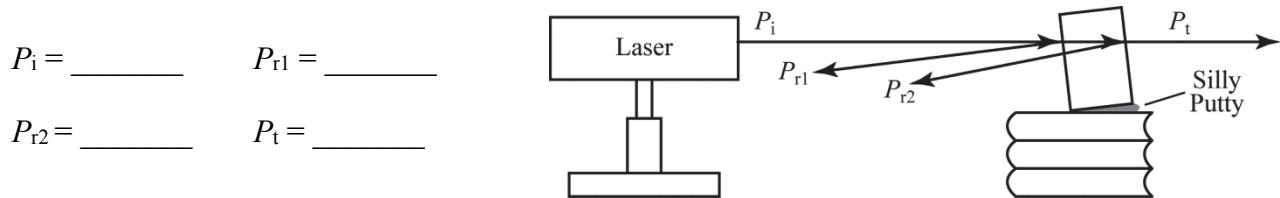
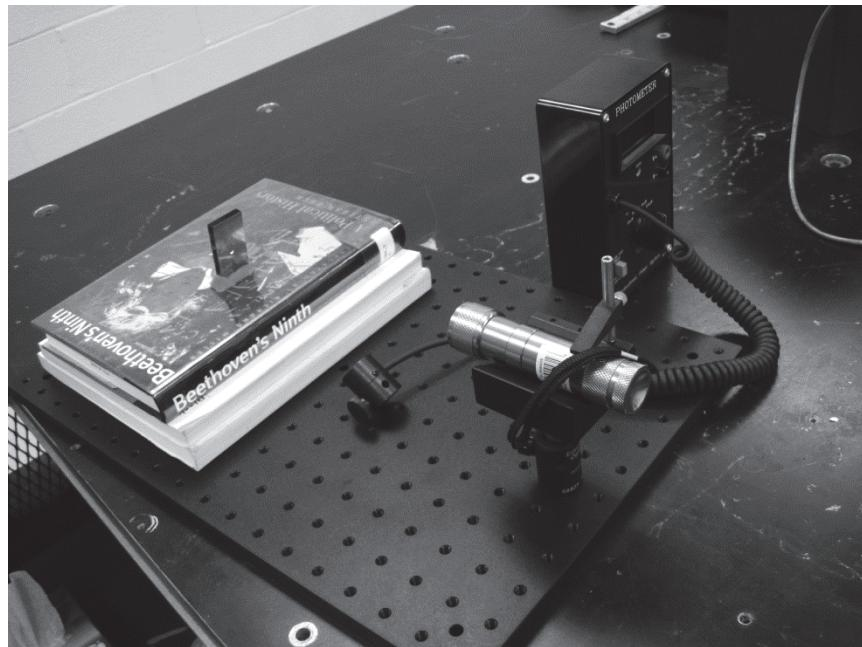
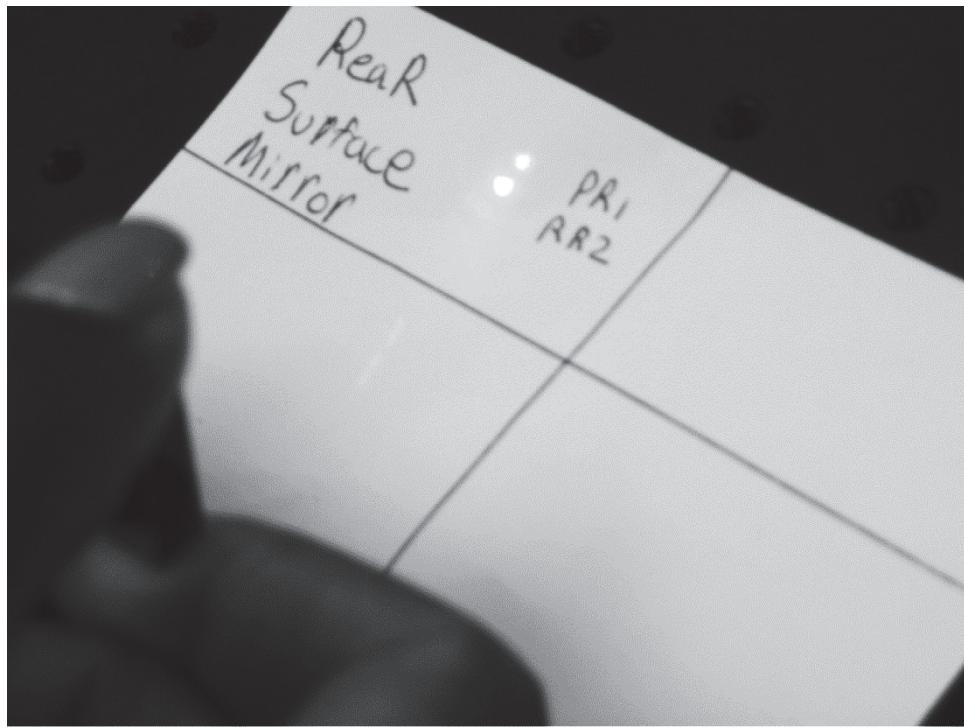

Figure 24 – Rear Surface Mirror Power Measurements Set-up
Figure 25 – Mirror Power Measurements Set-up
Figure 26 – Rear Surface Mirror Power Measurement
4. Measure and record each of the following values in Figure 24. Refer to Figure 25 and Figure 26 for experimental set-up.